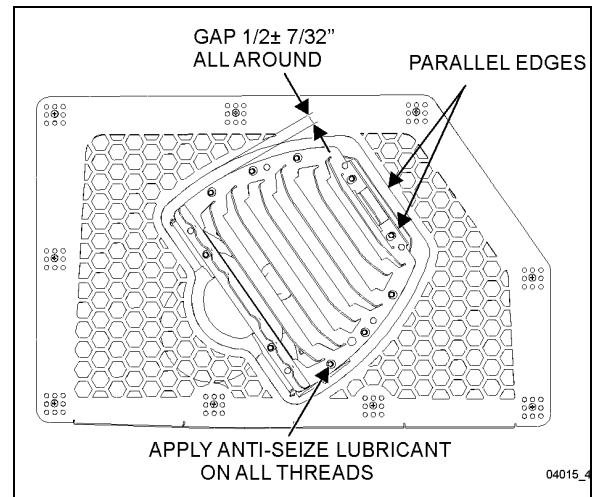

FIGURE 11: DIFFUSER POSITION ADJUSTMENT
2. For proper angular position, make sure that the two edges shown on Figure 11 are parallel with each other.